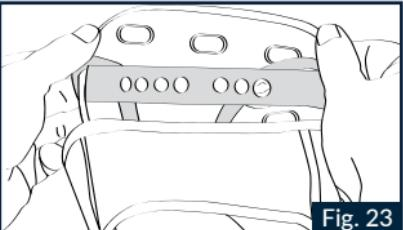

Fig. 23
1.1 Overturn one side of the upper part of the padding and unhook the front circular button for adjusting the liner below it from the underlying longitudinal plastic support with seven holes (Fig. 23).